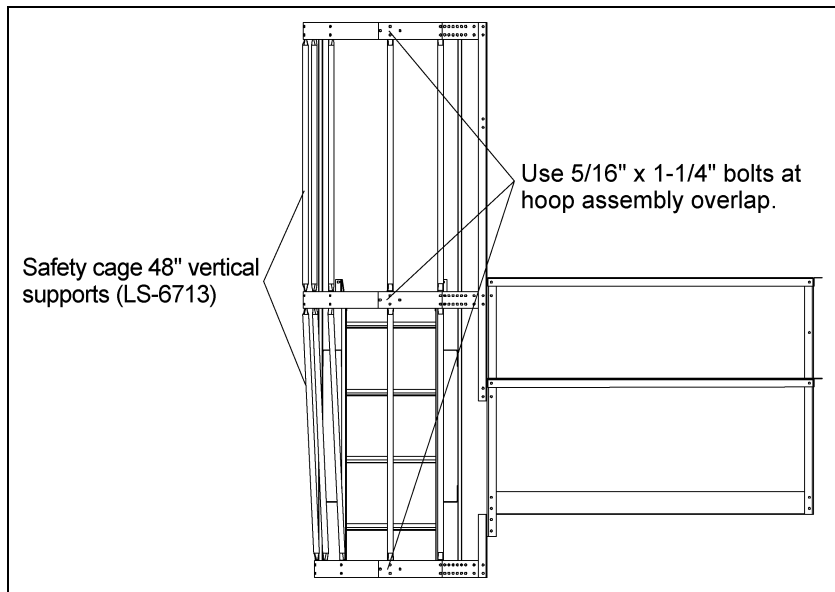

Figure 5N Vertical Supports
After all three (3) hoop assemblies are in place, attach the 48" vertical supports from hoop assembly to hoop assembly, as shown in Figure 5N. This requires ten (10) supports, five (5) between each set of hoops. The second set of vertical supports must be bent at the flat area to allow for the tapering of the bottom hoop assembly. Use 5/16" x 3/4" bolts (unless otherwise noted) with the head of the bolt to the inside of the safety cage.